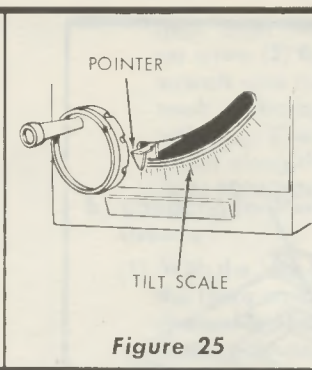

Figure 25
- (7) Check the tilt pointer on tilt gauge which should be positioned at exactly "0" (zero) degrees (see figure 25). If not aligned, with the mark, bend the pointer carefully with fingers until it remains at "0"